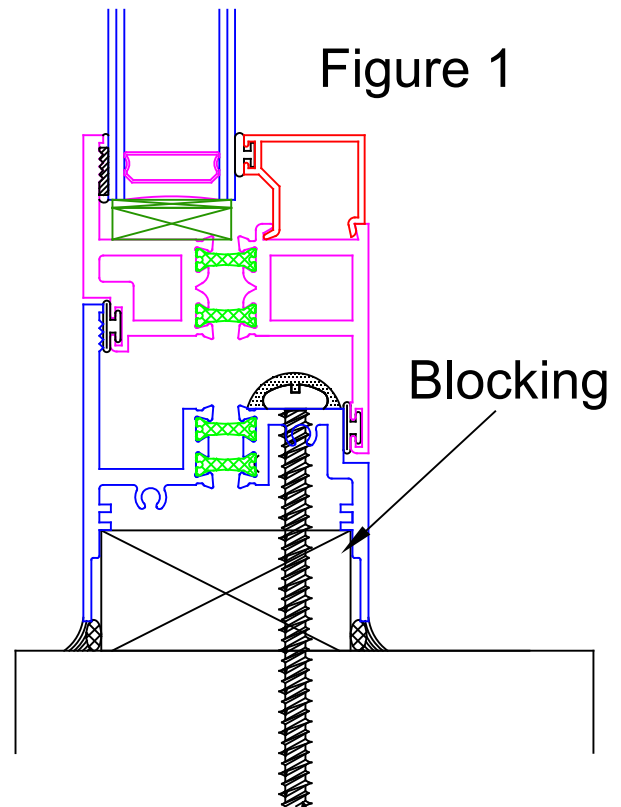

Figure 1
- C. Apply shims and/or blocking at each hinge and fastener location (See figure 1). The window must be level, plum and square in accordance with Table 1.